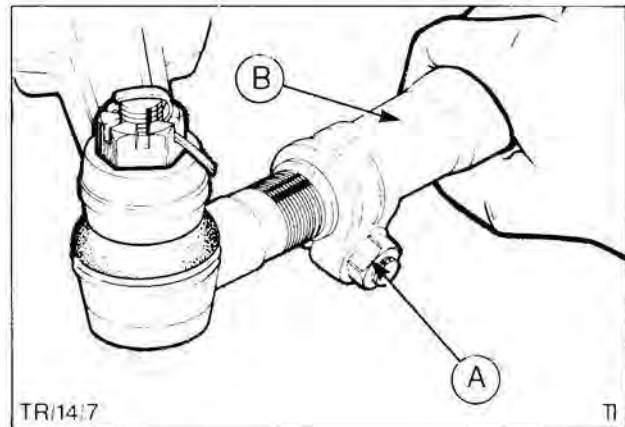

Fig. 7. Adjusting toe-in.
2. Rotate rod in the appropriate direction to achieve the specified toe-in figure, Fig. 7.